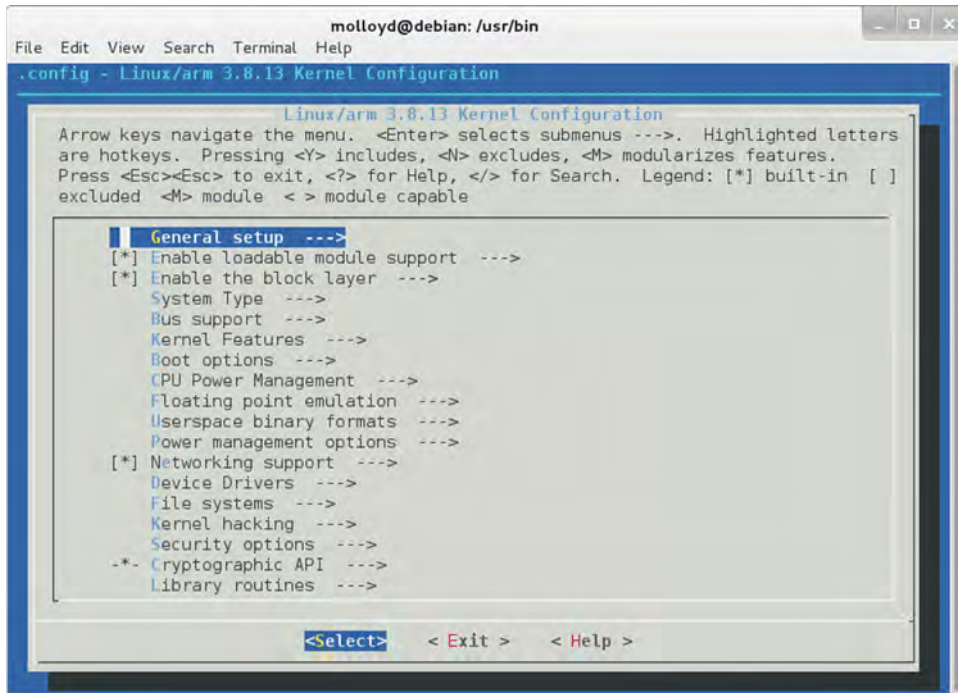

Figure 7-13: The Kernel Configuration tool
2. **Build the Linux kernel:** Clone the source code for the Linux kernel using a script from the “RobertCNelson” GitHub account. Start the build process by calling the `./build_kernel.sh` script. This will prompt you to install any missing dependencies. After the build process begins you will be invited to customize the kernel settings using the Kernel Configuration tool, which is illustrated in Figure 7-13. The build process will complete after several hours and will result in a compressed kernel image (in the `deploy` directory).